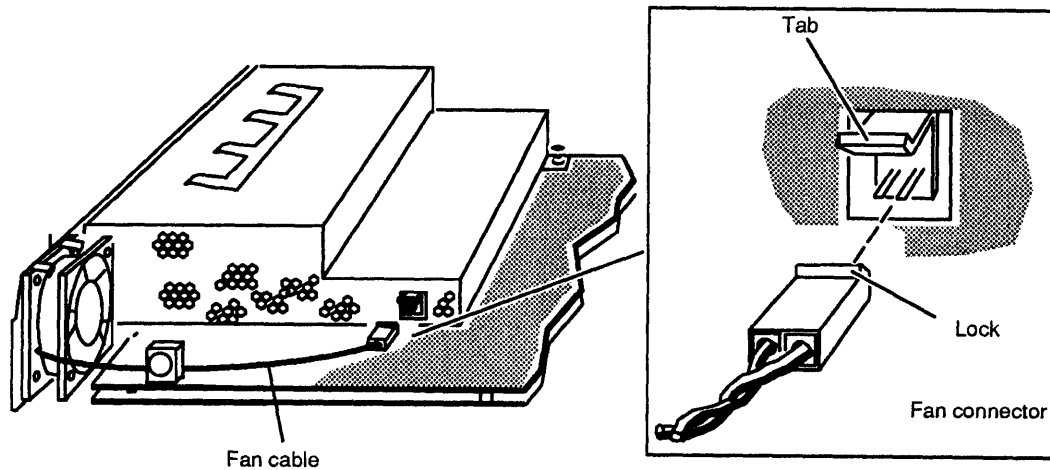

Figure 4-27 Disconnecting the Fan Cable
2. Lift up the tab on the fan connector and pull out the fan cable, as shown in Figure 4-27.